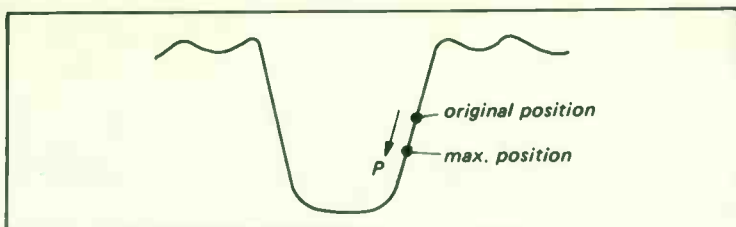

Fig. 6-23. AFC-3 adjustment waveform.
4—Adjust T515 (AFC-3) for maximum displacement of the 45.25 MHz marker point (P) in the direction shown by the arrow in Fig. 6-23.